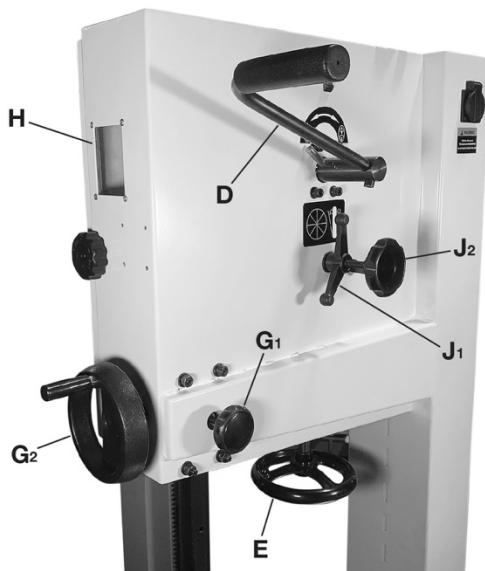

Figure 5-9
6. Raise quick tension lever (see D, Figure 5-9) to release position. If needed, rotate tension handwheel (E, Figure 5-9) counterclockwise for further de-tensioning.
Refer to Figures 5-9 and 5-10.
1. Lower tension lever (D, Figure 5-9) to tension position.
2. Set proper blade tension by rotating handwheel (E, Figure 5-9), clockwise to tighten, counterclockwise to loosen.
Refer to Figures 5-9, 5-10, and 5-11.
4. Loosen guide post locking knob (G₁, Figure 5-9) and use handwheel (G₂) to lower guide post until you can see blade through tracking window (H).
7. If blade tends to migrate toward left or right edge of wheel, loosen locking handle (J₁, Figure 5-9) counterclockwise, and rotate tracking knob (J₂) with your right hand while continuing to rotate wheel with your left.
3. Lower tension lever (D, Figure 5-9) to tension position.